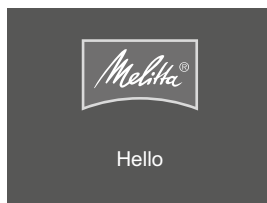

Fig. 5: Welcome display
2. Press the ON/OFF button (9).
- » The welcome display appears on the appliance (see Fig. 5).